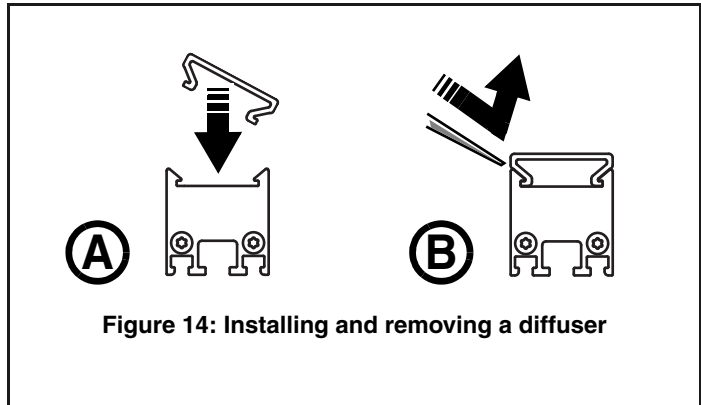

Figure 14: Installing and removing a diffuser
2. See Figure 14. Push one side of the accessory into the front of the fixture, then the other side (see **A**) so that both sides clip into place.
3. See Figure 14. Press the lever end of a tool between one side of the accessory and the fixture (see **B**) and lift the diffuser out of its clip and away from the fixture. You may need to use more than one tool at the same time to lever an accessory away from a fixture.